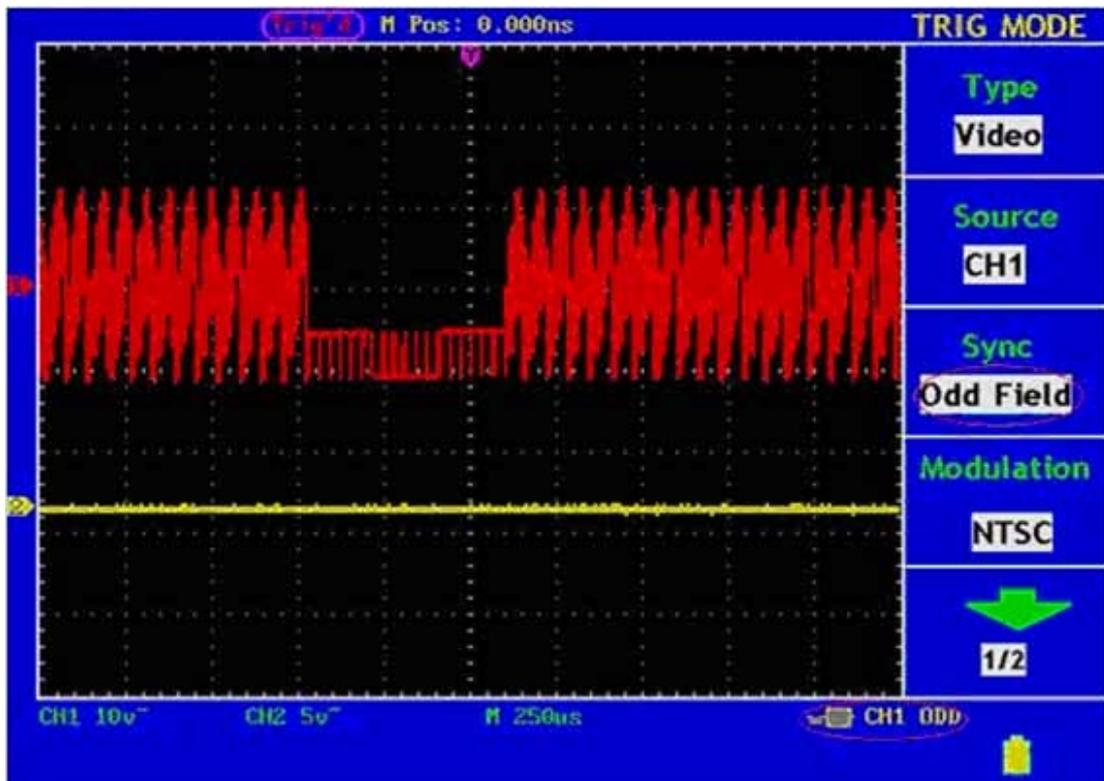

Fig. 33 Wave Form Triggered in the Odd Field
6. Press the **F3** menu selection button again and choose **Odd field** for Slope. The screen display is shown as Fig. 33.